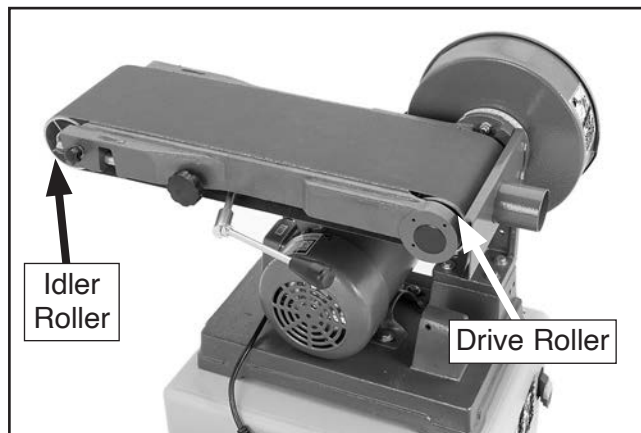

Figure 40. Belt installed onto idler and drive rollers.
36. Move the quick release lever toward the motor, slide the sanding belt over the lever and onto the idler roller and drive rollers, then center the belt on the rollers (see **Figure 40**).